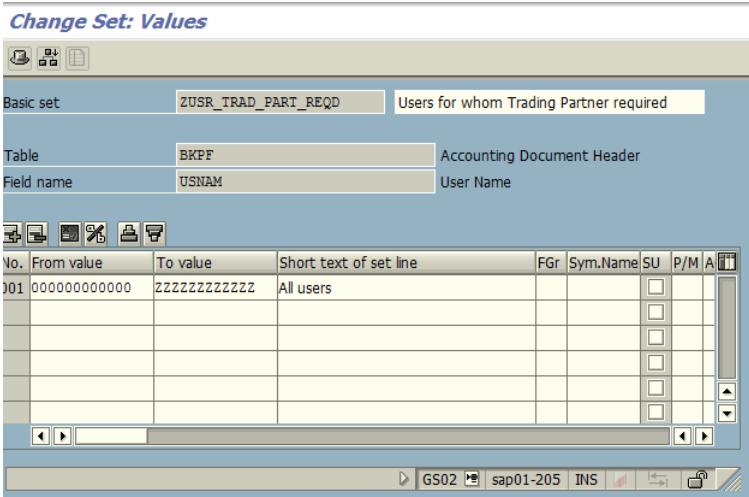

Figure 2.2: GS01/GS02—Create/Maintain set for users checked for Trading Partner
- ▶ For certain sets of users (defined in set “ZUSR_TRAD_PART_REQD”—Figure 2.2)